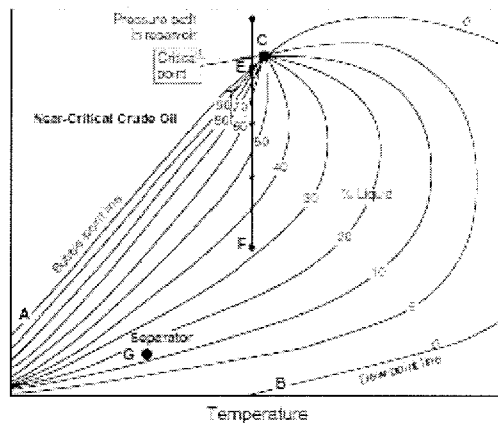
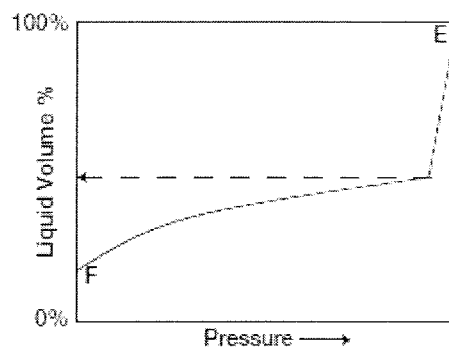

Figure 1-8. A schematic phase diagram for the near-critical crude oil.
Figure 1-9. A typical liquid-shrinkage curve for the near-critical crude oil.
4. **Near-critical crude oil.** If the reservoir temperature T is near the critical temperature T_c of the hydrocarbon system, as shown in Figure 1-8, the hydrocarbon mixture is identified as a near-critical crude oil. Because all the quality lines converge at the critical point, an isothermal pressure drop (as shown by the vertical line EF in Figure 1-8) may shrink the crude oil from 100% of the hydrocarbon pore volume at the bubble-point to 55% or less at a pressure 10 to 50 psi below the bubble-point. The shrinkage characteristic behavior of the near-critical crude oil is shown in Figure 1-9. The near-critical crude oil is characterized by a high GOR in excess of 3,000 scf/STB with an oil formation volume factor of 2.0 bb/STB or higher. The compositions of near-critical oils are usually characterized by 12.5 to 20 mol% heptanes-plus, 35% or more of ethane through hexanes, and the remainder methane.